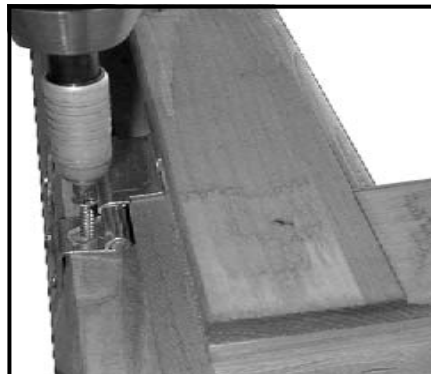

Fig A15
24. Open the window fully in order to fit a further 2x 25mm screws per hinge ( Fig.A15 ).